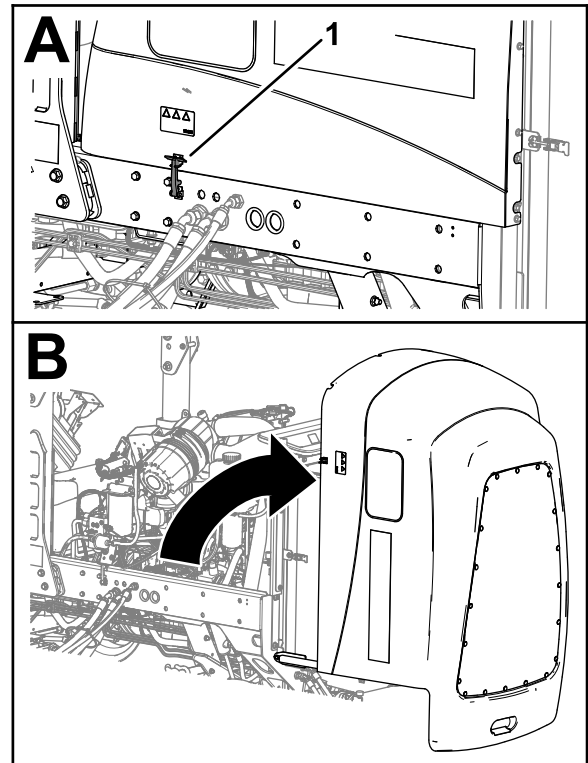

Figure 104
1. Release the 2 hood latches (Figure 104).
1. Release the rubber latch from the battery-compartment cover (Figure 104).